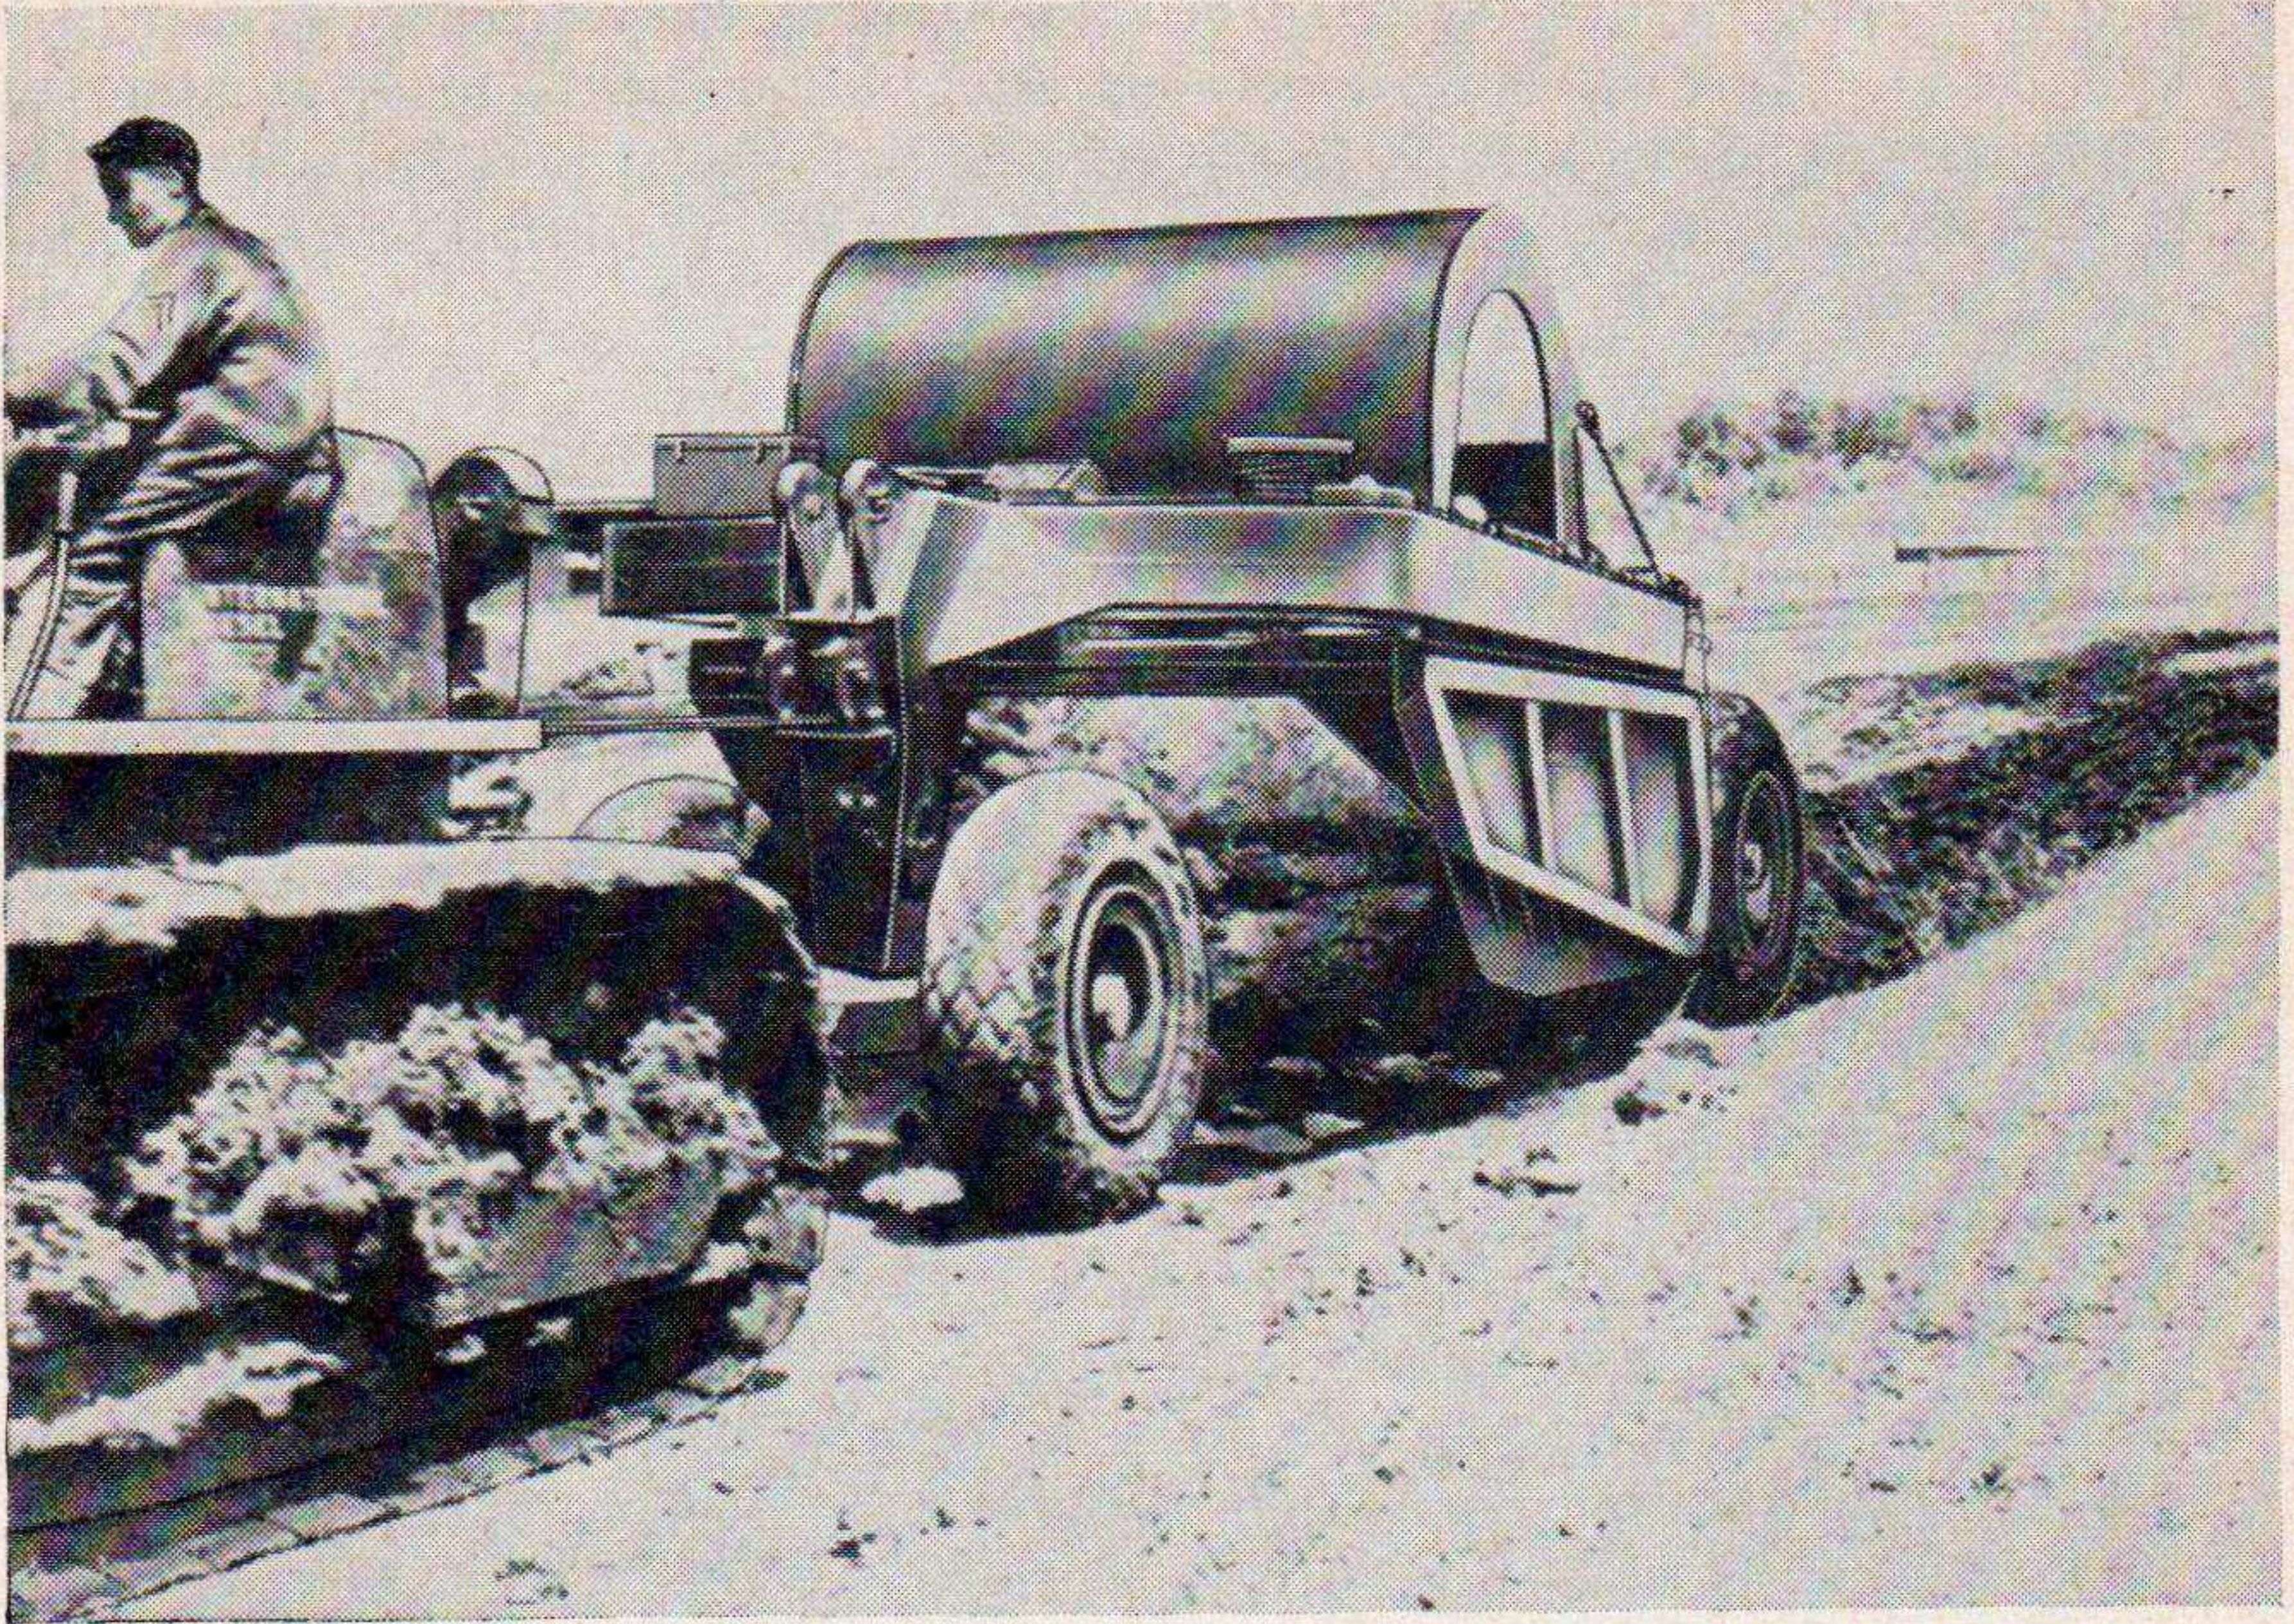

Figure 12. Unloading the scraper.
c. Unloading or Spreading (fig. 12). Perform the unloading or spreading operation in the highest gear possible. This, of course, depends entirely on the material and conditions. The unloading or spreading procedures are listed in the following subparagraphs.
- (1) When arriving at the fill with the loaded scraper, either raise or lower the bowl with the left operating lever, as required to give the desired thickness of spread.
- (2) Raise the apron to its full height with the right operating lever, and allow the dirt to fall out.
- (3) After the apron reached its full height drop it about twelve inches.
- (4) Use right operating lever and raise the apron again.